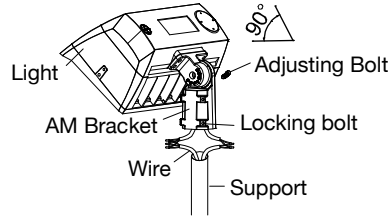

Figure 7
**1. Adjustable fitter mounting (AM)**
STEP 1: Connect the wire correctly and put the wire into pole. Then fasten the locking bolts between slip fitter and the pole. (FIGURE 7)